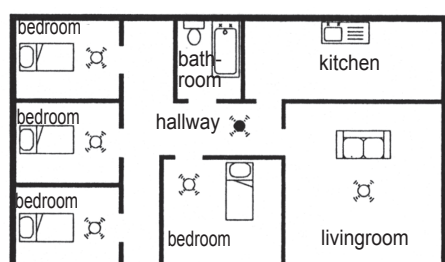

figure 1
- See minimum and maximum protection (figures 1 & 2)